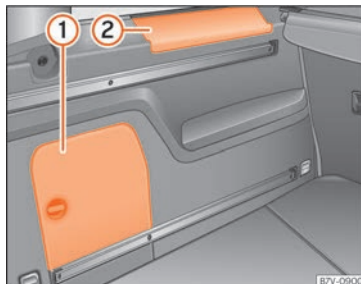

**Fig. 167** In the luggage compartment: side storage compartment.
There are other compartments » **Fig. 167** (1) and (2) in the side of the boot. To open the